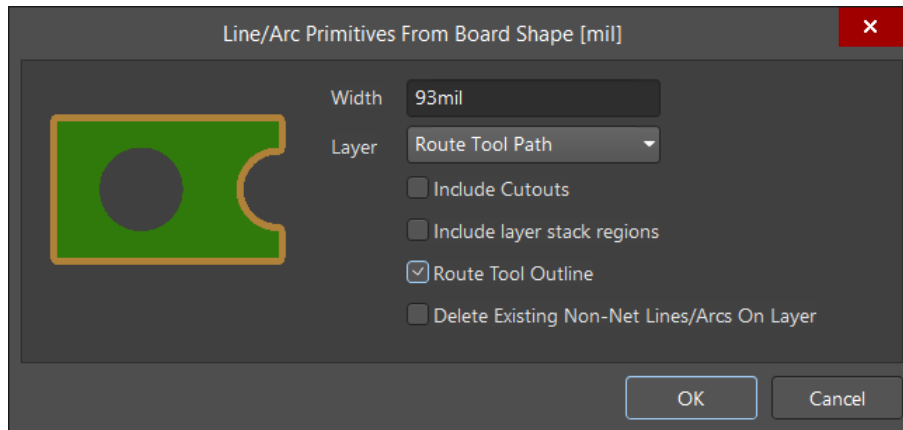

Figure 8. Line/Arc Primitives From Board Shape dialog
26. Set the options in the *Line/Arc Primitives From Board Shape* dialog as follows below. Also use Figure 8 as a reference: